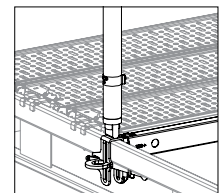

Fig. B1.03c
1. Place Ledger-to-Ledger Coupler UHA (15) on the Ledger UHV 250 (5), do not yet secure wedges for alignment. (Fig. B1.03c)
2. Insert Standards UVR (6).
3. Connect Base Standards UVB (2) and Ledger-to-Ledger Coupler UHA (15) with Standards UVR (6) by means of Locking Pins (17). (Fig. B1.03c)